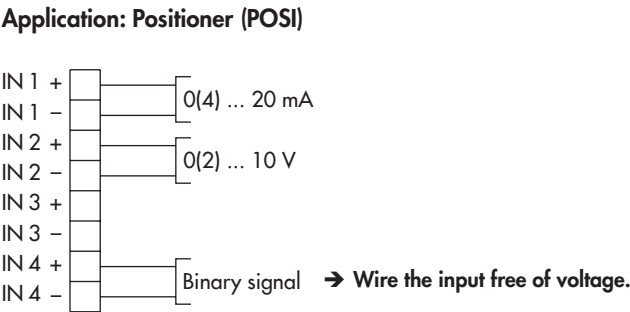
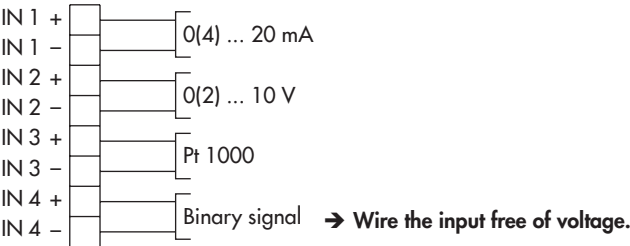

Fig. 18: Terminal assignment when positioner selected as the application
Fig. 22: Terminal assignment when temperature closed-loop control upon input signal failure selected as the application
- ➔ Use terminal assignment according to Fig. 18.
- ➔ Use terminal assignment according to Fig. 22.
- ➔ Wire the terminals of the actuator according to Fig. 18 to Fig. 22.